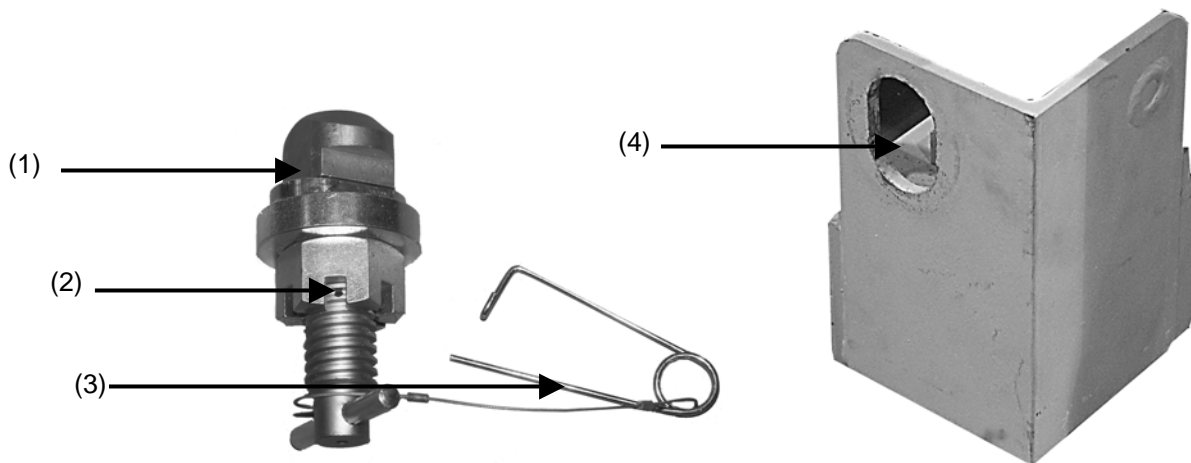

Figure 4-67. Block T-lock and ISO Block.
7. Insert block T-lock (1) in ISO block corner slot (4) (Fig. 4-67).
9. With an 18" automotive adjustable wrench (WP 0058 00, SATS Base Tool Component List), rotate nut clockwise to tighten until secure, revealing holes (2) for locking pin (Fig. 4-67).
10. Insert locking pin into holes (2) between nut notches and clasp pin shut (Fig.4-67).